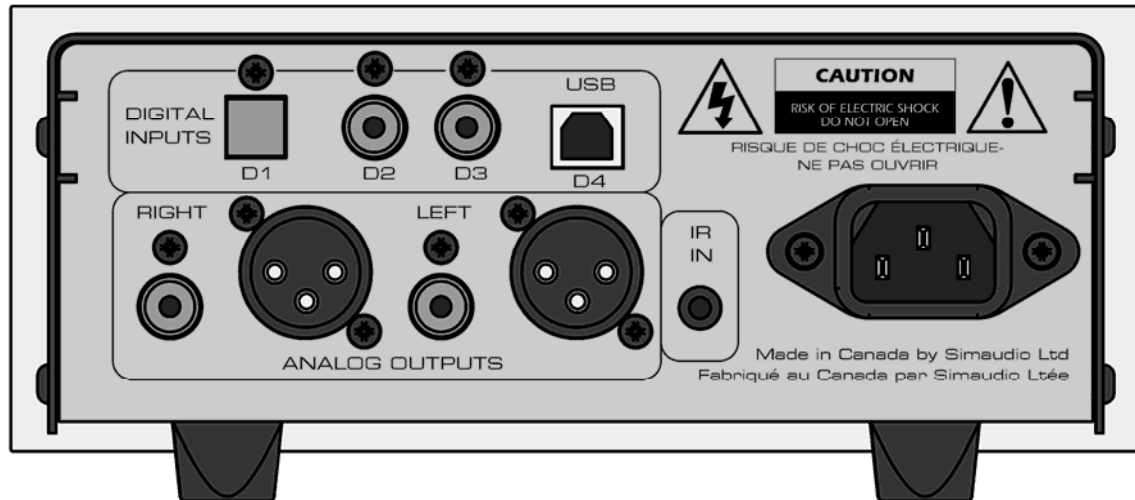

Figure 2: MOON 300D Rear panel
The rear panel will look similar to Figure 2 (above). The top left section has four (4) digital inputs – “D1” is an optical Toslink connector and is intended for use with devices equipped with a digital Toslink output such as a DVD player or digital satellite receiver; Both “D2” and “D3” are S/PDIF on a coaxial RCA connector and are meant to be used with devices equipped with an S/PDIF output such as music servers and disc transports. note: you should use a 75Ω digital audio cable terminated with RCA connectors to make an S/PDIF connection. “D4” uses a USB (type-B) connector and is intended for use with a computer.